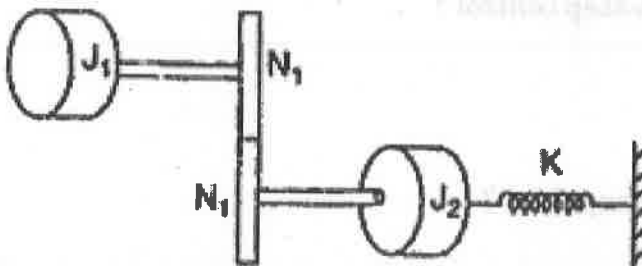

Fig. 1
- b) i) With the help of a block diagram, explain digital logic control. (6)
ii) Draw the equivalent free body diagram for the system shown in Fig. 1 and derive the differential equation. (10)